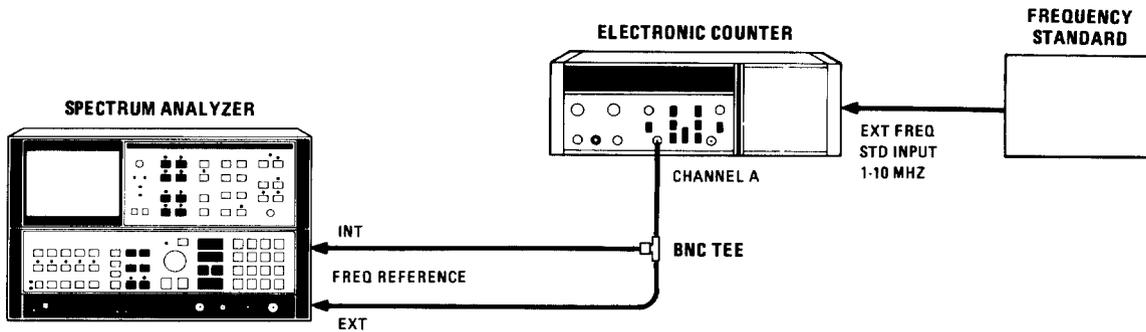

FIGURE 37. FREQUENCY REFERENCE TEST SETUP
3. Connect equipment as shown in Figure 37.